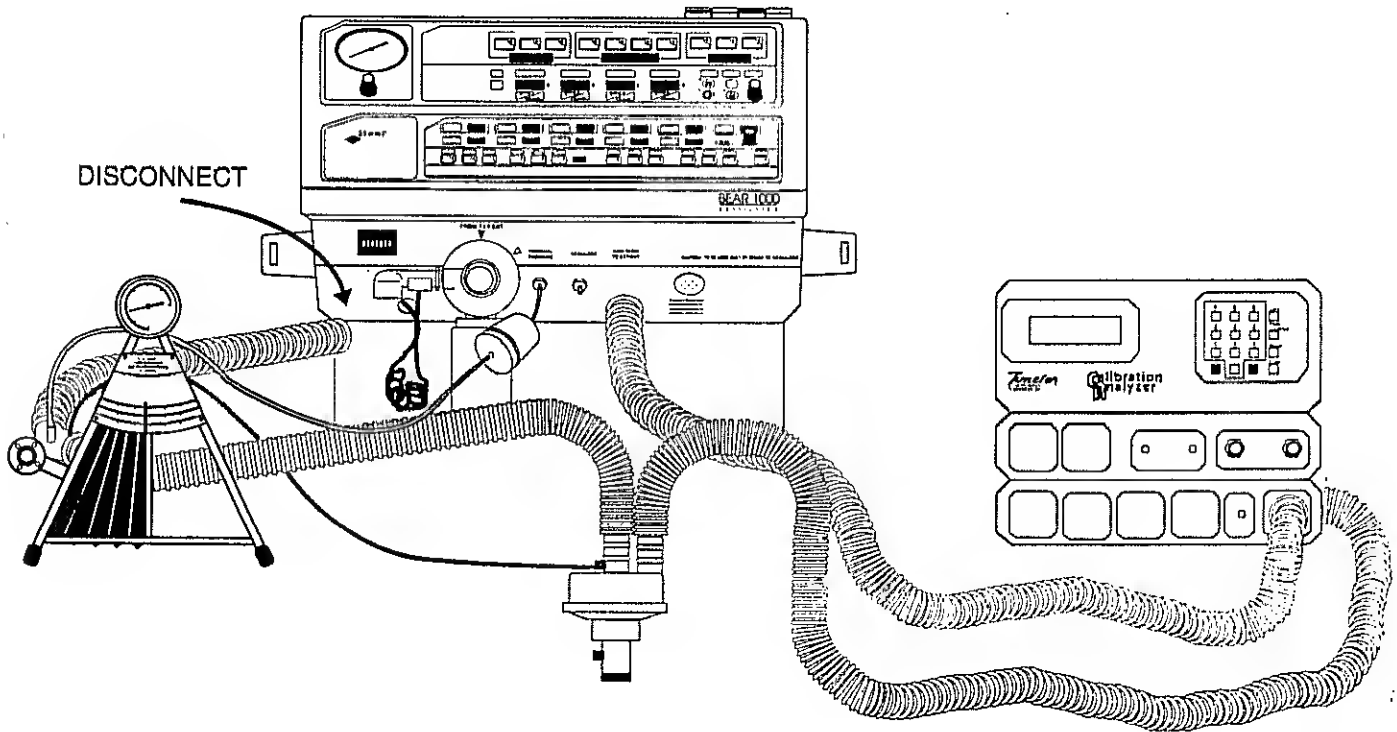

Figure 3-8
- Connect the ventilator and analyzer as shown in Figure 3-8.